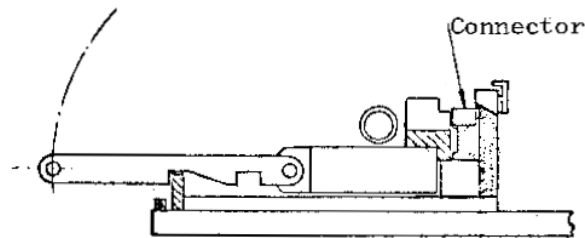

Fig. 4
- (3) Raise stop lever to unhook the lever, so that it returns forward automatically by the spring tension to securely lock the connector in place of termination target area. (See Fig. 4.)